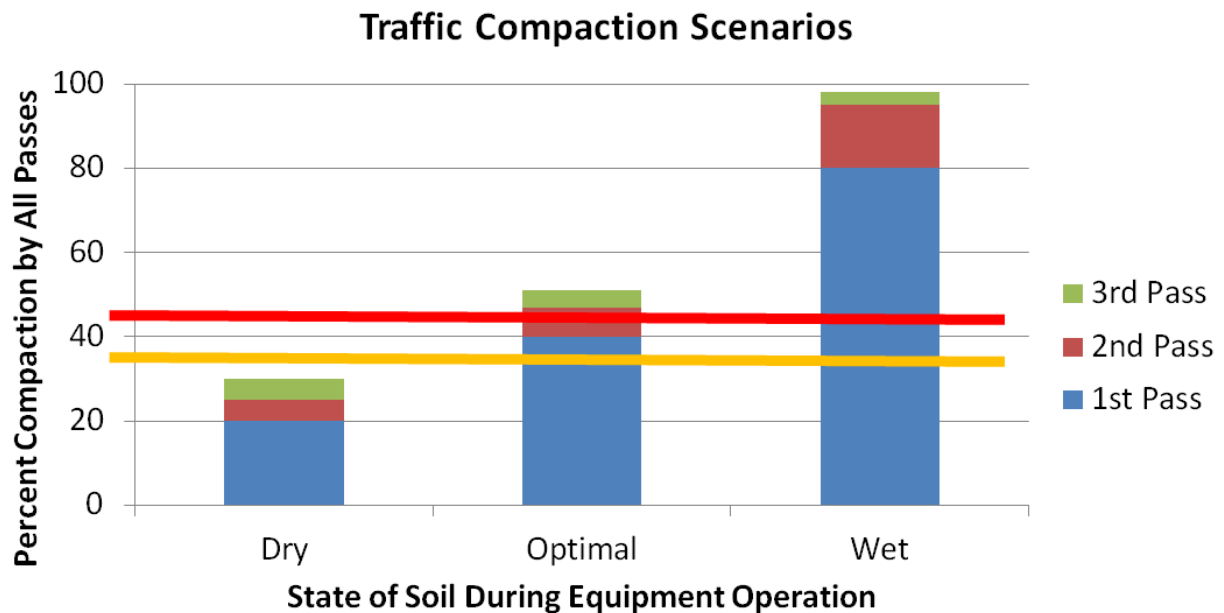

Figure 6. The Cumulative Increase in Compaction Caused By Additional Traffic Across the Field in the Same Wheel Tracks. McDonald, OMAFRA, 2017
4. Reduce the frequency of travel in the field (Figure 6 and 7)
Figure 6 shows how multiple passes in the same track can increase compaction. 80% of compaction is done in the first pass. This is why maintaining traffic in the same path is recommended.